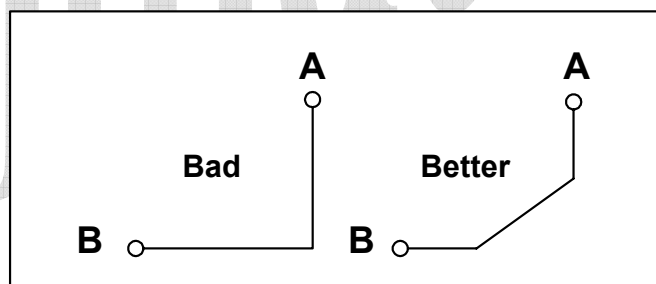

Figure 1. Signal Trace Angles
- Ninety-degree trace angles should be avoided. We recommend that the traces turn at 45° angles as shown in Figure 1. Sharp edges may add unexpected parasitic effects into the circuitry. Reducing the trace length will reduce trace inductance during quick energy bursts
- Avoid right angle signal traces. Ninety-degree trace corners should be avoided. We recommend that the traces turn at 45° angles as shown in Figure 1 , page 3. Sharp edges may add unexpected parasitic effects into the circuitry. Reducing the trace length will reduce trace inductance during quick energy bursts.